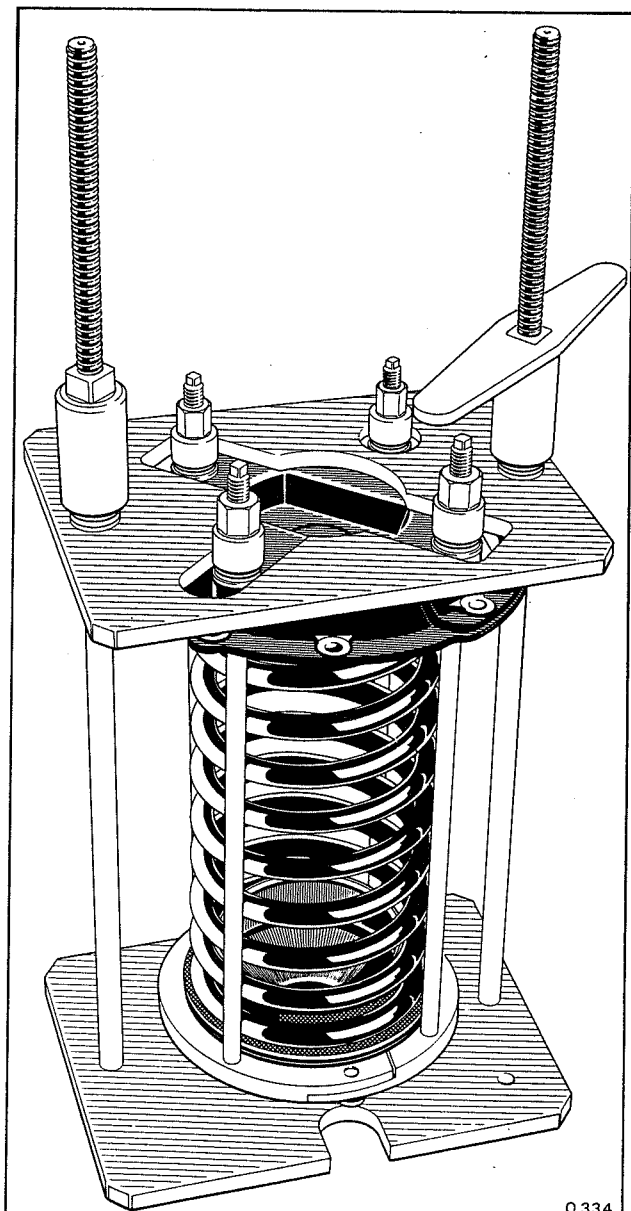

Fig. H10 Spring compression tool
Place the complete assembly into spring compression tool (RH 7909). Fit and secure the top plate of the tool to retain the spring (see Fig. H10).
4. Place the road spring and its associated components (see Fig. H10) into spring compression tool (RH 7909). Compress the spring to the measurement taken on removal.